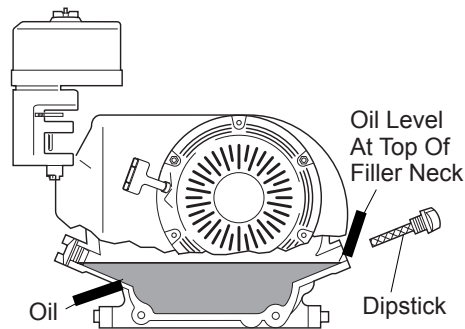

Figure 6 - Checking Oil Level (Model MGR4500i Shown)
1. Remove dipstick (see Figure 6). Wipe dipstick clean.
3. If level is low, fill to top of oil filler neck (see Figure 6). Only use oil recommended in engine owner's manual.